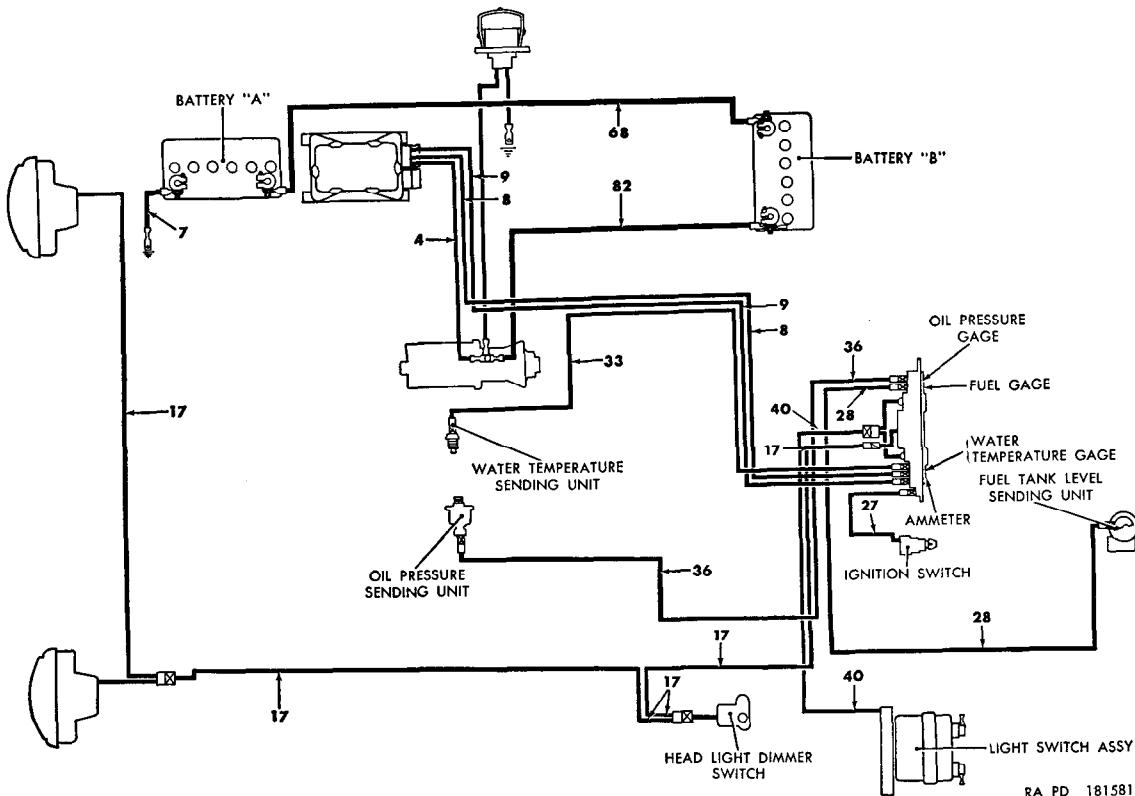

Figure 85. Instruments, gages, switches, and sending units identification diagram.
- (1) *Water temperature sending unit.* The water temperature sending unit is mounted on the right side of the cylinder head. It electrically transmits the water temperature to the water temperature gage through cable No. 33.
- (2) *Oil pressure sending unit.* The oil pressure sending unit, mounted on the lower left rear side of the cylinder block, electrically transmits the engine oil pressure to the oil pressure gage through cable No. 36.
- (3) *Fuel tank level sending unit.* The fuel tank level sending unit, mounted in the top section of the fuel tank, electrically transmits the level of the fuel in the tank to the fuel gage through cable No. 28.
e. Cable Numbers. Standard circuit or cable numbers are used throughout. These cable numbers are stamped on small metal tags attached near the ends of each cable. These numbers are shown in the identification diagram (fig. 85).